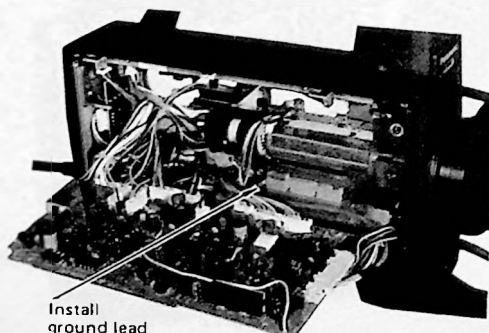

Fig. 3-14
- Install the ground lead for the vidicon socket. (Fig. 3-14)